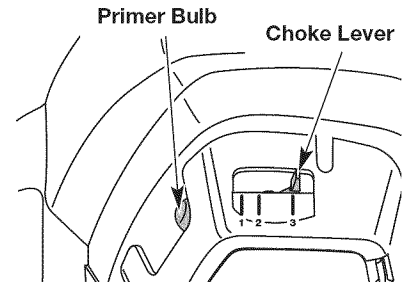

Fig. 11
3. Fully press and release the primer bulb 10 times, slowly. Some amount of fuel should be visible in the primer bulb and fuel lines (Fig. 11). If you can't see fuel in the bulb, press and release the bulb as many times as it takes until you can see fuel in it.
4. Place the choke lever in **Position 1** (Fig. 11).
6. Place the choke lever in **Position 2** (Fig. 11).
9. Place the choke lever in **Position 3** (Fig. 11). The unit is ready for use.